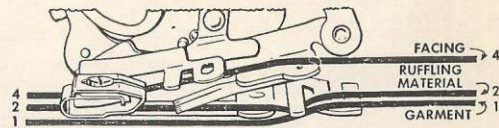

Fig. 65. Correct Positions for Materials
1. Insert material to be ruffled between two blue blades **Line 2**, Fig. 65.
attached under separator blade **Line 1**, Fig. 65.
3. Place facing material over upper blue blade **Line 4**, Fig. 65.